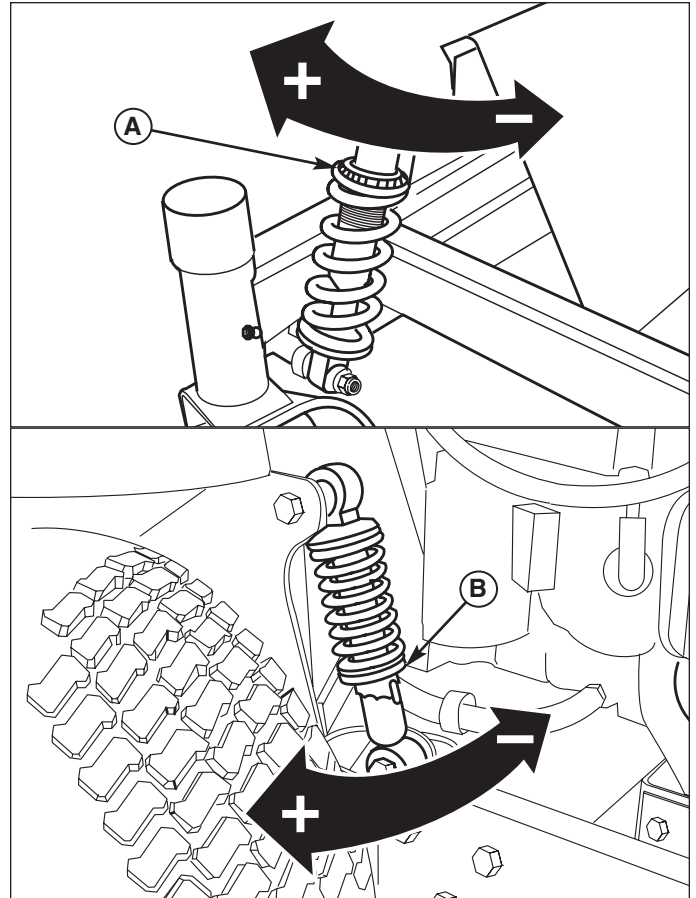

Figure 25. Suspension Adjustment
2. See Figure 25. Turn the pre-load adjustment collar (A) CLOCKWISE to increase the pre-load, turn COUNTER-CLOCKWISE to decrease the pre-load. Make sure both front shocks are set to the same amount of pre-load. Make sure both rear shocks are set to the same amount of pre-load.